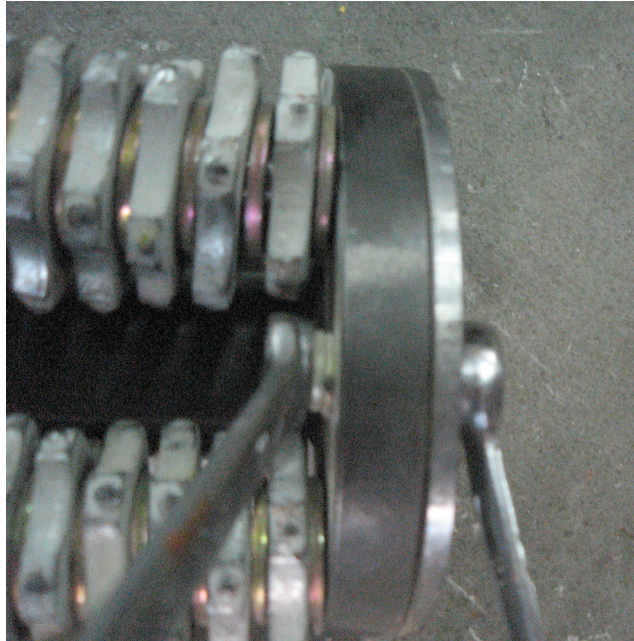

Figure 6
1. Using two spanners, unfasten the bolts. (See Figure 6)